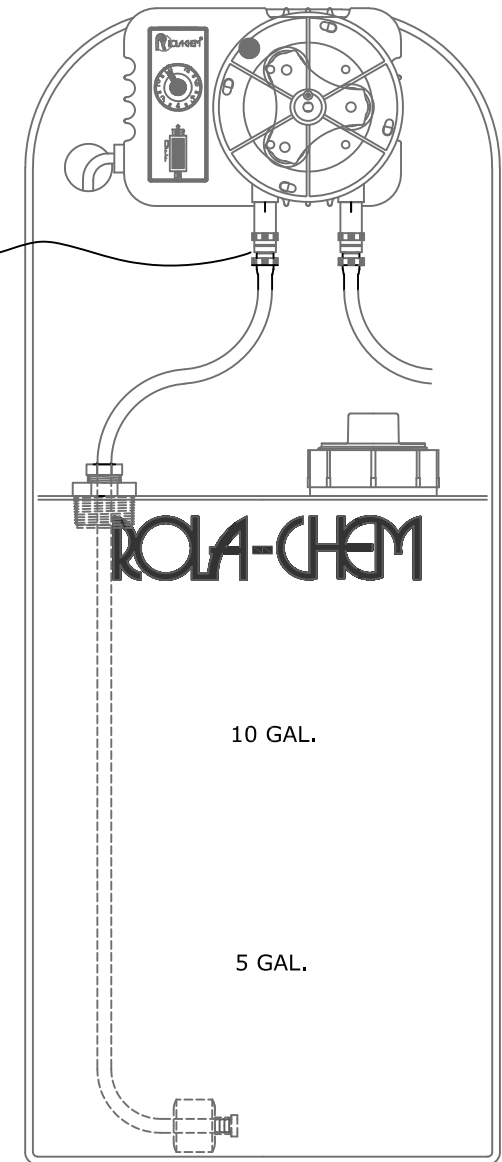

FIG 2
3. Put Suction Tube into Tank (weighted end first) and screw Fitting into Tank (See FIG 2).